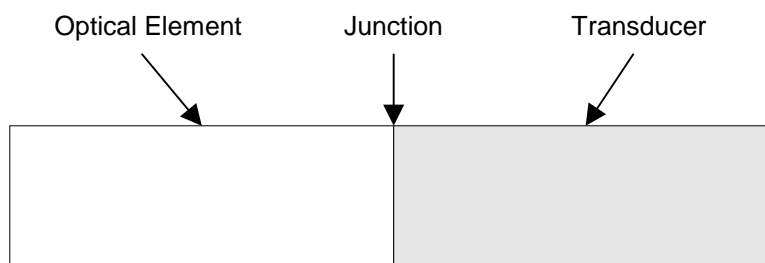

Figure S.7 Junction between Optical Element and Transducer
5. Remove the yellow transducer support clips (i.e. for models II/FS42 and II/IS42). See Figure S.7 on the following page.